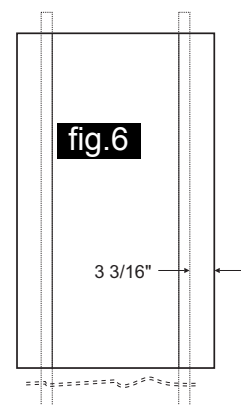

fig.6
3. Once a suitable wall location has been found, carefully cut away a section of drywall 24" wide and 38" tall. Center the 24" wide hole over the two studs. There should be an opening 3 3/16" wide on either side of each stud (fig. 6). If the section of drywall is cut out carefully, it may be re-used later to patch the wall once the enclosure is installed.